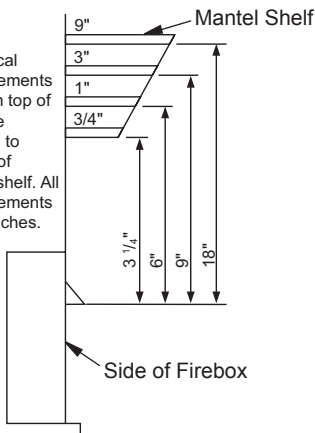

Figure 9 - Minimum Mantel Clearances for Built-In Installation
C. For mantel clearances, see Figure 9 on page 12.
Built-in installation of this fireplace involves installing fireplace into a framed-in enclosure. This makes the front of fireplace flush with wall. Fireplace face will extend past sides and top of fireplace approximately 1". This will cover the rough edges of the wall opening. If installing a built-in mantel above the fireplace, you must follow the clearances shown in Figure 9, page 12. To install the fireplace in this manner, use the following instructions.
NOTICE: If your installation does not meet the minimum clearances shown in Figure 9, page 12, you must do one of the following: